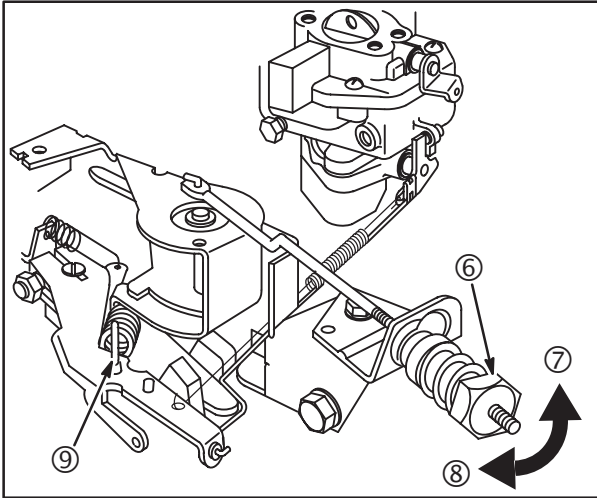

Fig. 37
NOTE: Be sure the governor spring is installed in #1 hole in governor lever (9), Fig. 37.
- Turn fixed speed adjustable control nut (6) clockwise (8) to increase or counter-clockwise (7) to decrease engine speed until desired Top No-Load RPM is obtained, **Fig. 37**.